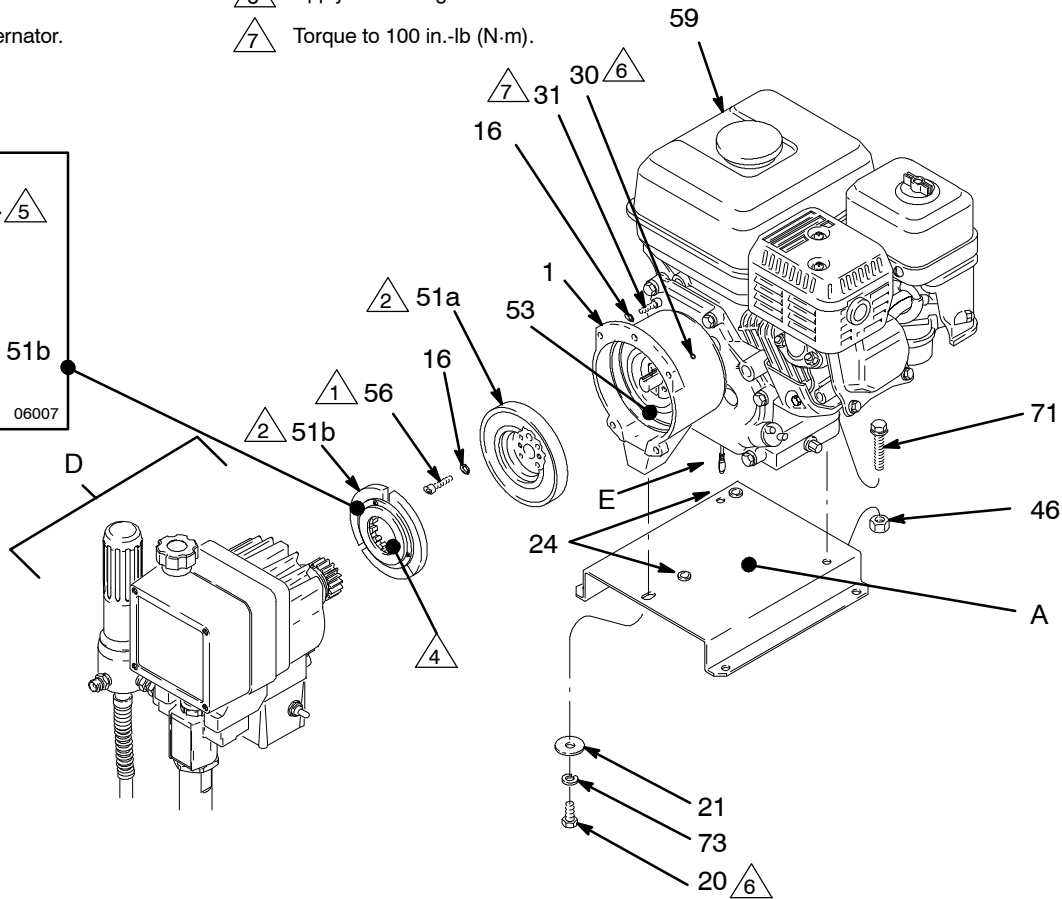

Fig. 25
6. Be sure the face of the **rotor (51a)** and the clamp (55) are free of all burrs . Install the rotor, lock-washers (16) and capscrews (56). Torque the capscrews to 7 ft-lb (9.5 N.m). See Fig. 25.
7. After installing the rotor (51a) the air gap must be adjusted between the rotor and the field (53). Tighten the setscrews (30) oppositely and evenly. Pull the engine recoil rope to assure that the engine turns freely, and there is no contact between the rotor and the field. If there is contact, loosen the setscrews and reposition the field.
8. Clean the face of the **armature (51b)**. With the flat side of the armature facing the rotor (51a), slide the armature onto the hub (2h) in the drive/pinion assembly (D) just until the chamfered end of the hub (2h) protrudes through the armature. See Detail B, Fig. 25. There will be significant resistance. Attach the cardboard spacer, supplied with the clutch kit, to the face of the armature. Bend tabs over outside diameter of armature.
9. Assemble the **drive assembly (D)** to the clutch housing (1), using the capscrews (31) and lock-washers (16). See Fig. 25.